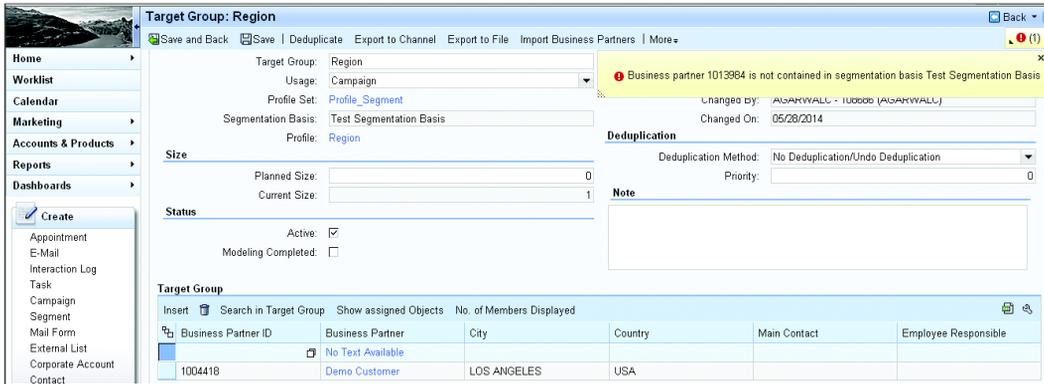

Figure 5.68 Segmentation Basis Validation
5. Figure 5.68 shows that if you try to enter a partner that isn't listed in the segmentation basis, then you'll receive an error message. This shows the business partner filtration occurring in the segmentation basis before the target group is created.